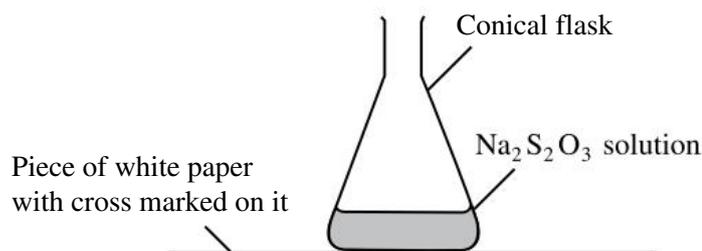

Figure 39.1
- Place 45 mL of $0.25 \text{ mol L}^{-1} \text{ Na}_2\text{S}_2\text{O}_3$ in a 100 mL conical flask. Put the flask over a cross marked on a piece of white paper as shown in figure 39.1 below.